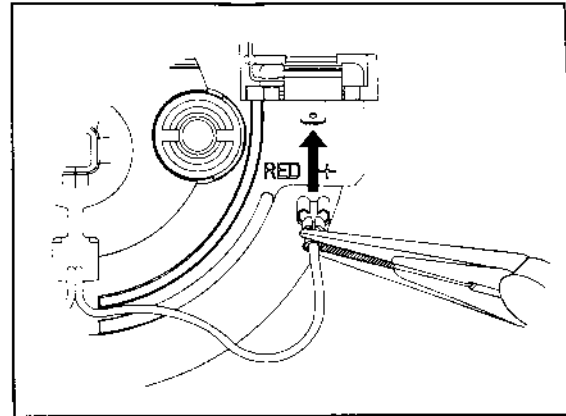

figure 1
1. Insert latch assembly through hole in edge of door, as shown in Figure 1. Be sure that the assembly is facing in the proper direction by observing the "UP" markings stamped on latch.
When connecting wires to module, the use of long nose pliers will ease installation. Reference figure 1.